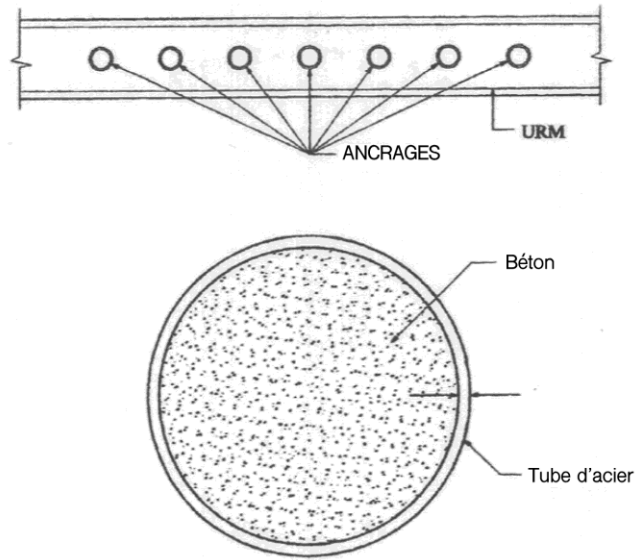

FIGURE 1 - ANCRAGE CINTEC
2.1.1 The Cintec Pipe Anchor Retrofit System is used to retrofit unreinforced masonry (URM) structures and nonductile concrete structures. Figure 1 provides details of the system.